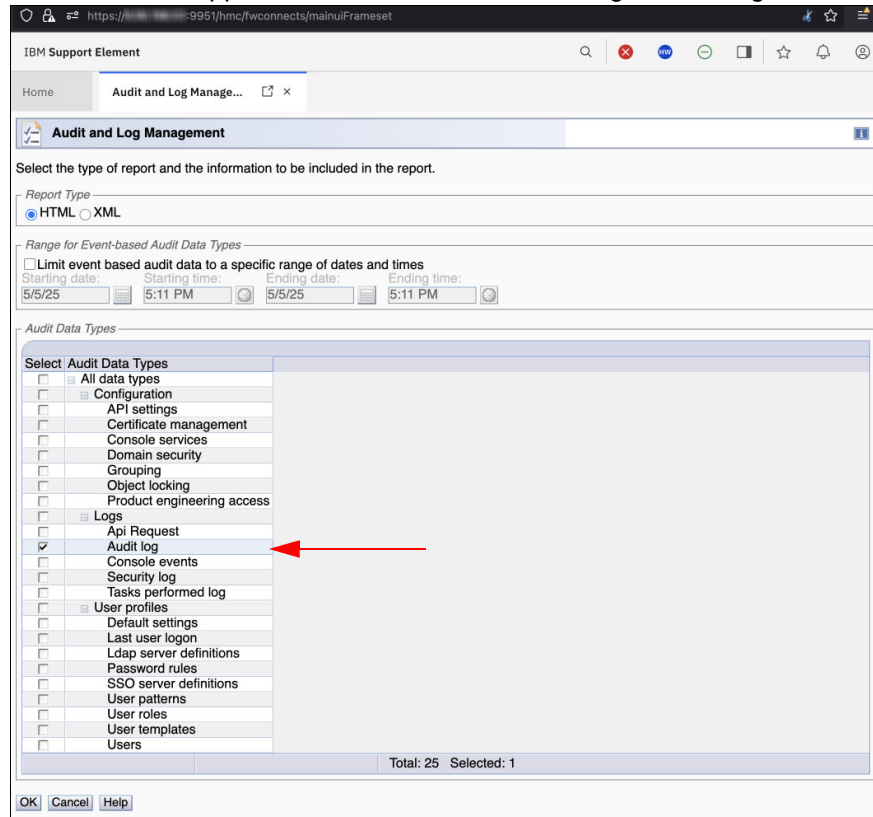

Figure 4-58
1. In the IBM Support Element, select the Audit Log and Management task (Figure 4-58).